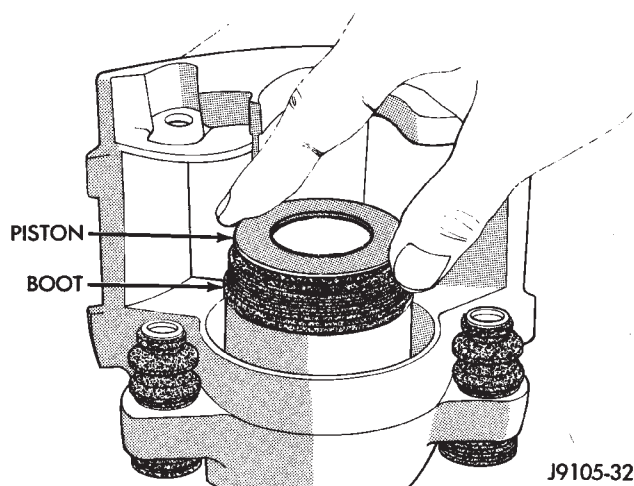
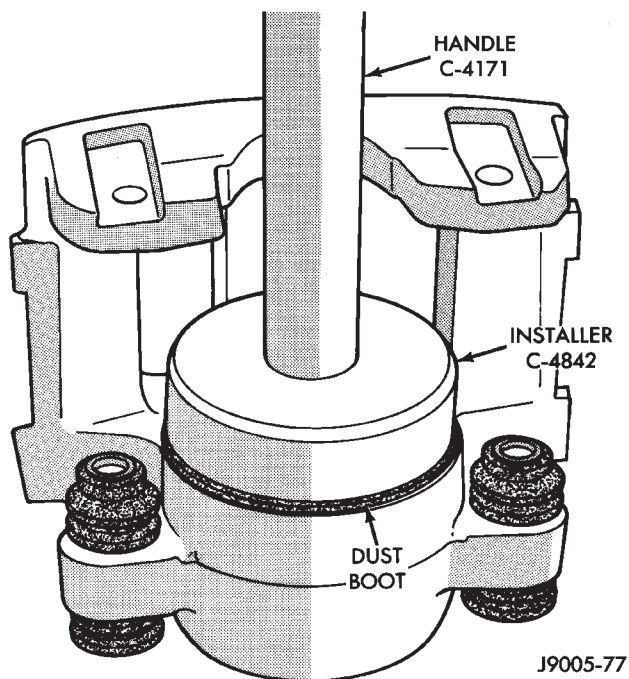

Fig. 53 Caliper Piston Installation
Fig. 54 Piston Dust Boot Installation
- (6) Press piston into caliper bore by hand, use a turn and push motion to work piston into seal (Fig. 53).
- (7) Press caliper piston to bottom of bore.
- (8) Seat dust boot in caliper with Installer Tool C-4842 and Tool Handle C-4171 (Fig. 54).